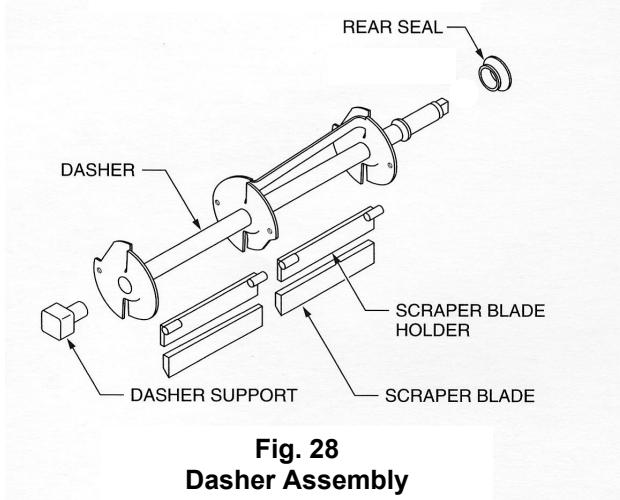

Fig. 28
- d. Install the scraper blade holder assemblies onto the dasher (Fig. 28).